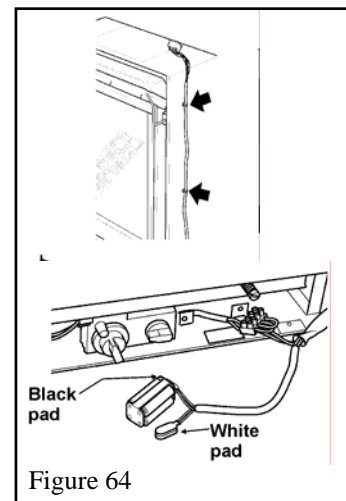

Figure 64
- Connect the battery box to the **black** connection pad. See figure 64.
- Place the battery box on the “Velcro” pad in front of the battery shield. Fit the wires into the clips. See figure 64.